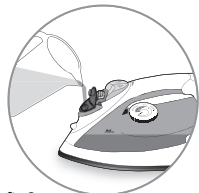
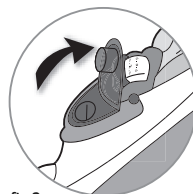

fig.3
fig.2
- Open the water tank filling inlet lid (fig.2), place the iron in a horizontal position and fill it with water (fig.3).